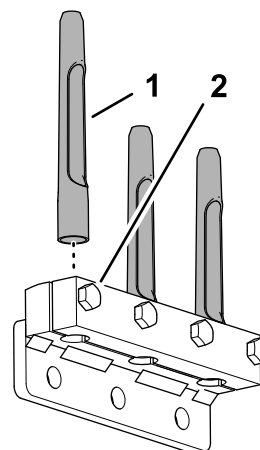

Figure 41
2. Assemble the tines into the tine holder and tine clamp (Figure 41).